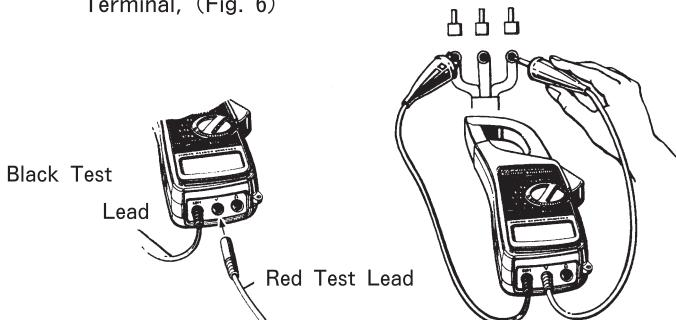

Fig.6
- (3) Insert the red plug of the test leads into the VOLT Terminal and the black plug into the COMMON Terminal, (Fig. 6)